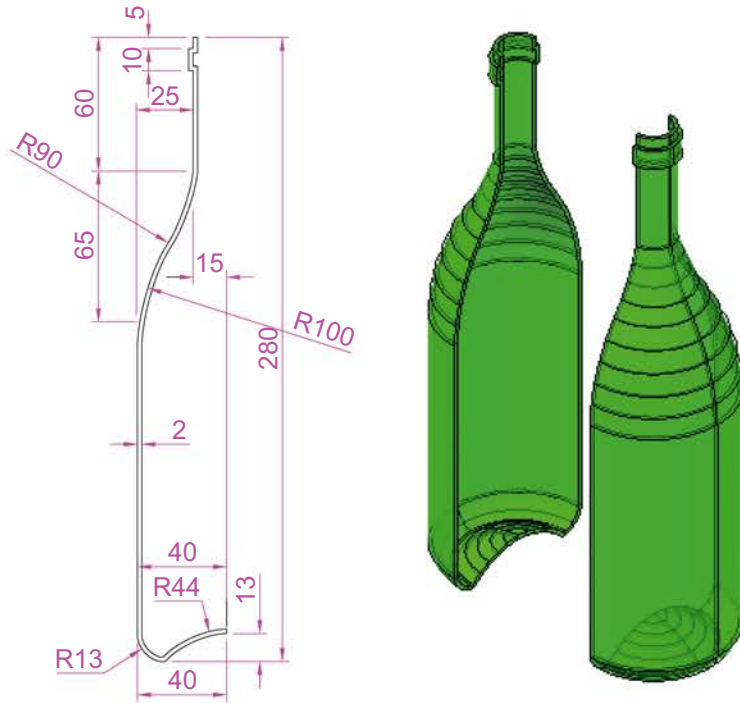

Fig. 11.25 Second example – Slice
SECOND EXAMPLE – SLICE (FIG. 11.25)
1. On a layer of colour **Green**, construct the closed pline shown in the left-hand drawing Fig. 11.25 and with the **Revolve** tool, form a solid of revolution from the pline.
4. Change to the conceptual style to X-Ray. The right-hand illustration of Fig. 11.25 shows the result.